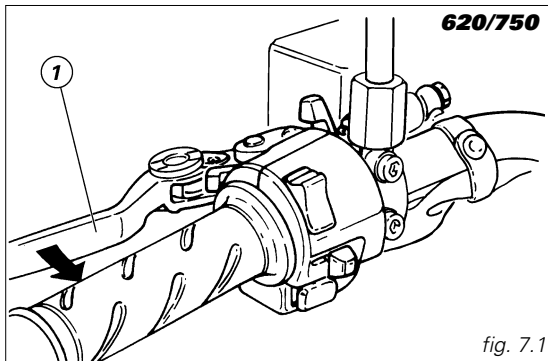

fig. 7.1
When you pull in the lever (1) (fig. 7.1 and 7.2), you will disengage the engine from the gearbox and therefore from the driving wheel. Using the clutch properly is essential to smooth riding, especially when moving off.